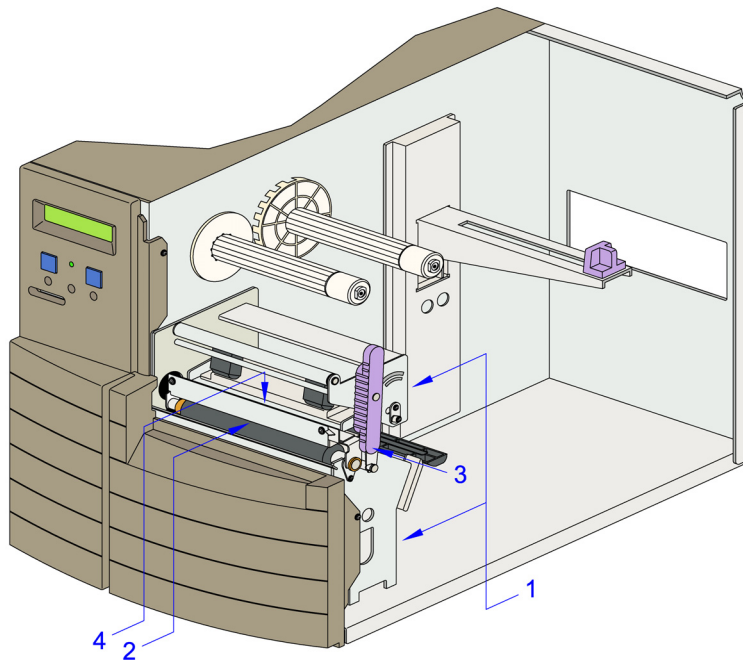
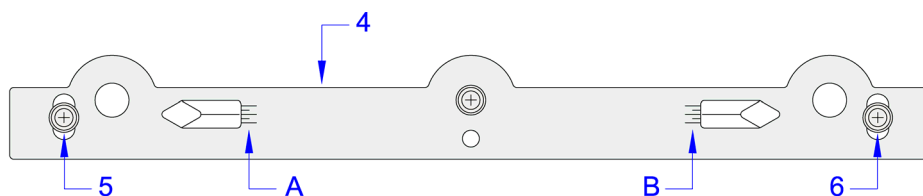

Figure 8-2a, Print Head Alignment
Figure 8-2b, Print Head Alignment
- 1 Open the right housing cover to access print assembly (1, Figure 8-2a).
- 2 Ensure print head (2) is latched (3).
- 3 Look downward to print head (2) to locate head alignment plate (4, Figure 8-2b).
- 4 Ensure the values of alignment scales (A) and (B) are the same.